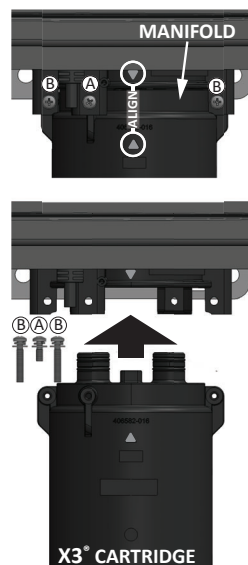

Figure 37 - X3® Cartridge Installation
NOTICE: The X3® cartridge is keyed to only install in one direction. Align the ▲ on the X3® cartridge with the ▼ on the manifold (the bypass cartridge is not keyed and will install in either direction). When inserting the X3® cartridge, push up until the screw holes align. Some resistance is normal. See Figure 37 for reference.
4 Remove the two (B) screws and the one (A) screw securing the X3® Cartridge to the manifold located on the underside of the water heater cabinet. Set the screws aside in a safe place for re-installation. Note the order of the screws when removing them. Reference Figure 37.